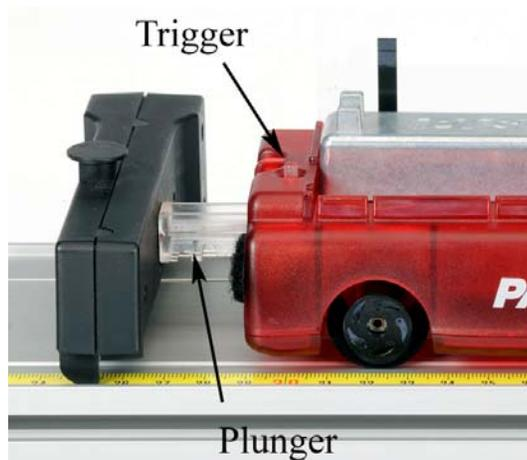

Figure 4: Using plunger to launch cart.
8. Compress the cart plunger to the 2nd position and place it against the Endstop as shown in Figure 4. This will be the starting point of the cart for every run. Practice hitting the trigger to launch the cart. One way is to use the spare mass bar to tap the trigger.